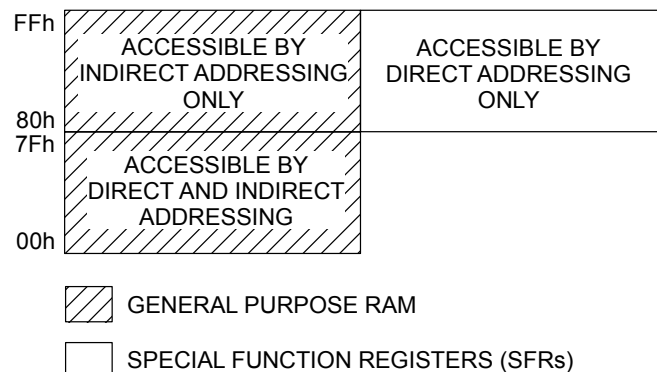

Figure 57: General Purpose RAM and SFR memory address overlap
Addresses 0x80 through 0xFF of General Purpose RAM are shared with the Special Function Registers. The mode of addressing determines which memory space is accessed as shown in Figure 57.
**Special Function Registers:** Special Function Registers are registers that affect the function of the 8051 core or its peripherals. These registers are located in RAM with addresses 0x80 through 0xFF. They are only accessible through direct addressing as shown in Figure 57 .